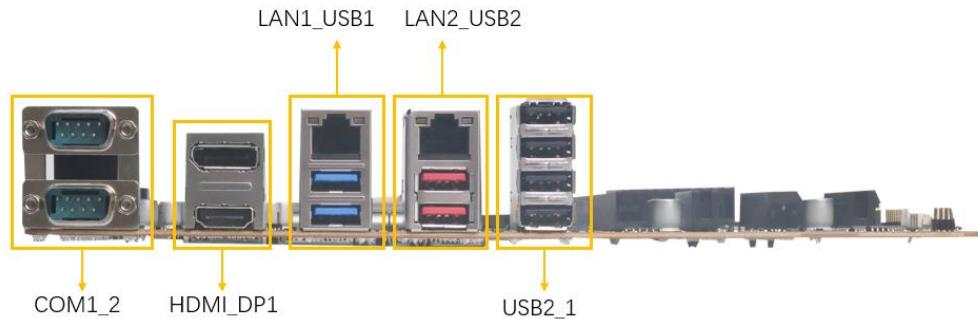

Figure 3-33: External Peripheral Interface Connector
CN Location: See Figure 3-33
- CN Location:** See **Figure 3-33**